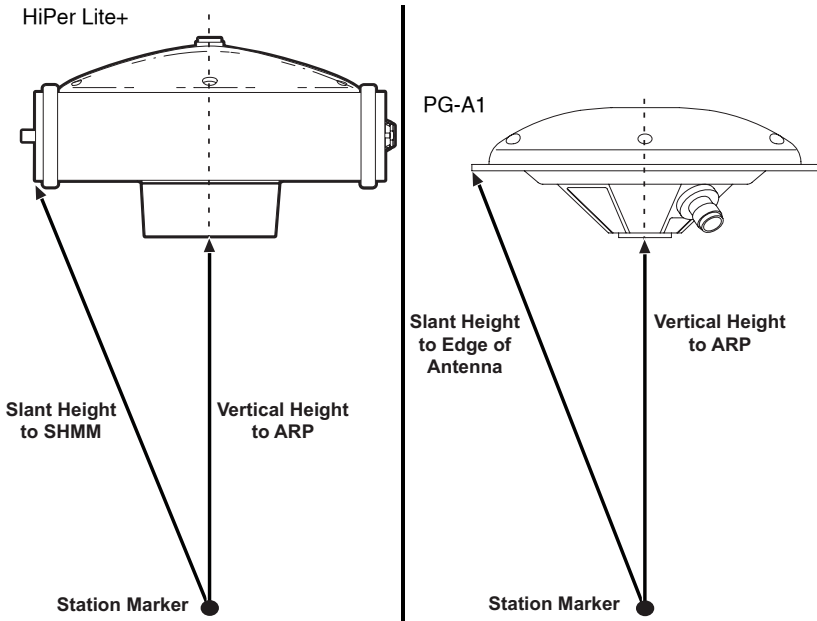

Figure 5-4. Measure Base Station Antenna Height
Step 5: measure the antenna height from the control point to the rim (slant) or ARP (vertical) of the antenna (Figure 5-4).